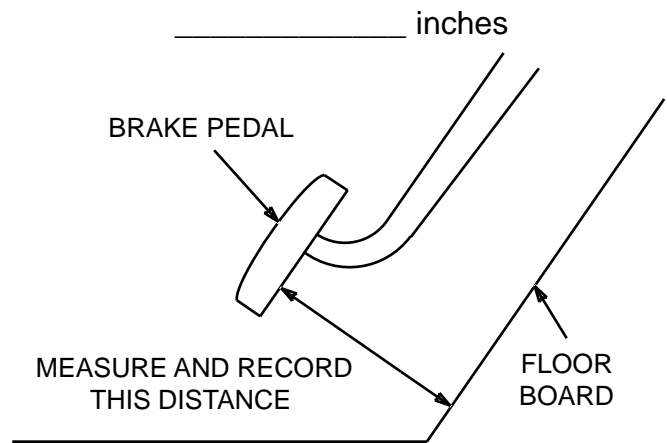

Figure 1
1. Measure the height of the brake pedal from the floor, as shown in figure 1, and record it here: